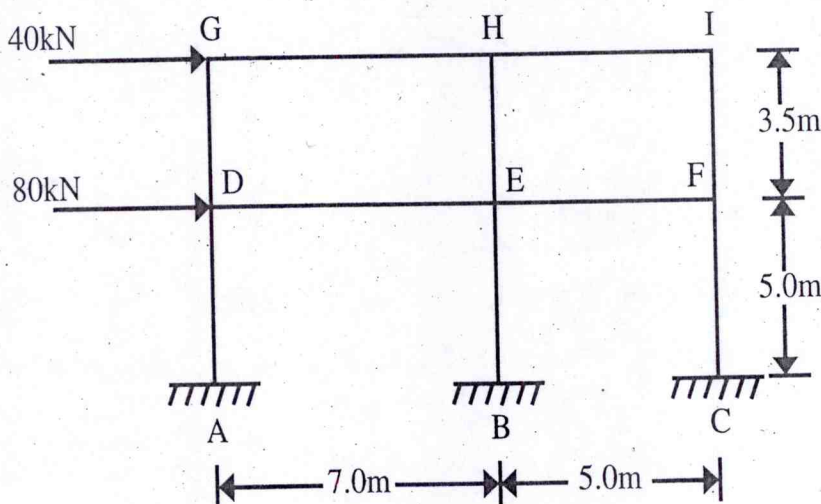

Fig.7
Q.5 Using portal method, analyze the frame as shown in Fig. 7 below. Assume that all columns have equal area of cross section. [16]